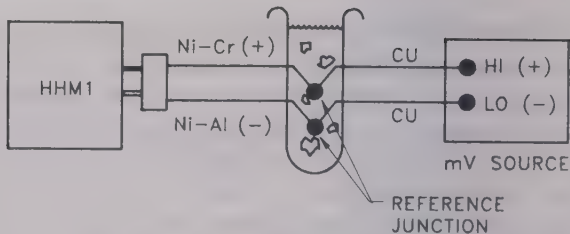
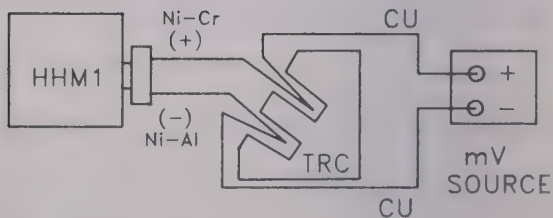

Figure 4-2. Ice Bath Setup
Figure 4-3. TRC-III Setup
To calibrate the HHM1 temperature inputs (return them to their factory settings), special equipment is required. An ice point reference and high accuracy thermocouple (T/C) reference probes are required. If one of the two temperature inputs has been left at the original factory setting, or if the equipment described is unavailable, the steps described in Section 3.2 can be used to return the T/C inputs close to their original setting. The benefit of using the method described below is that it employs a specially selected, high accuracy thermocouple and an ice point reference that is extremely accurate and stable. To return both offsets to their factory settings, go through the following steps. Refer to Figures 4-2 and 4-3.
1. Insert a Type K thermocouple reference probe such as the OMEGA TRP-K into an ice point reference chamber (Figure 4-3) such as the OMEGA Model TRC-III or a carefully monitored ice water bath (Figure 4-2).